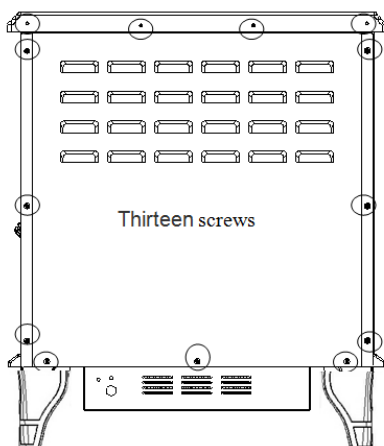

Fig.1
- Loosen the screws holding the stove back panel to the main body of stove (see Fig.1).